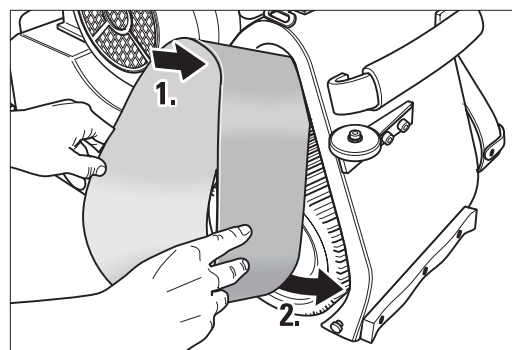

Fig. 8 Mount the sanding belt.
- 9 Position the sanding belt on the tensioning roller and push it over the sanding drum (Fig. 8).